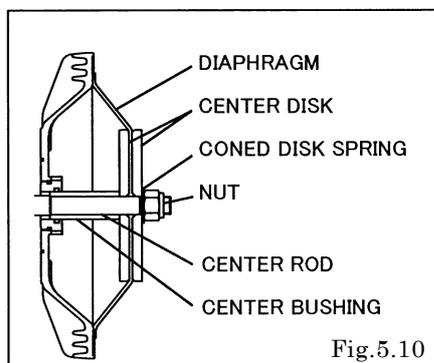

Fig.5.10
- Keep the marking "OUTSIDE" to liquid end for CR, NBR, EPDM, FKM diaphragms. Keep the convex side to the outside for TPEE, TPO diaphragms. [Fig.5.10]
- Draw the center disk to one side (exclude B□H, B□S, B□H/T types cf. Fig.5.10).and install the out chamber. tighten the bolts temporarily.